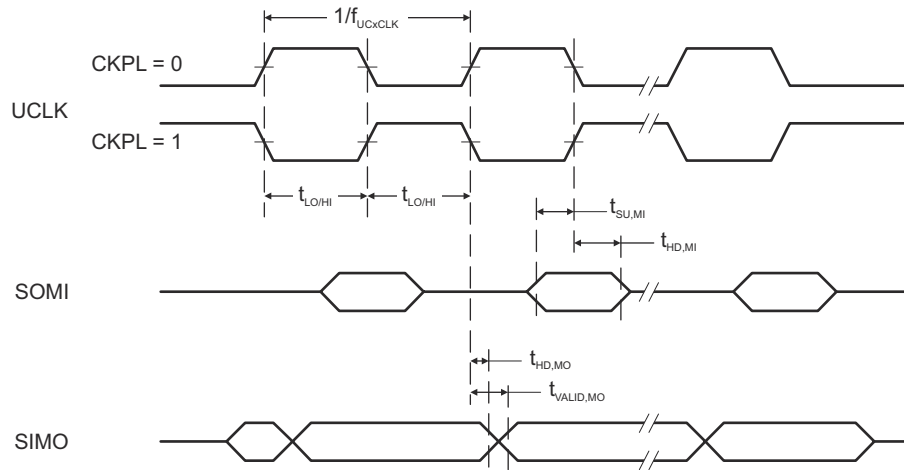

图 8-11. SPI Master Mode, CKPH = 0
(see Fig 8-11 and Fig 8-12)
- (2) Specifies the time to drive the next valid data to the SIMO output after the output changing UCLK clock edge. See the timing diagrams in Fig 8-11 and Fig 8-12.
- (3) Specifies how long data on the SIMO output is valid after the output changing UCLK clock edge. Negative values indicate that the data on the SIMO output can become invalid before the output changing clock edge observed on UCLK. See the timing diagrams in Fig 8-11 and Fig 8-12.